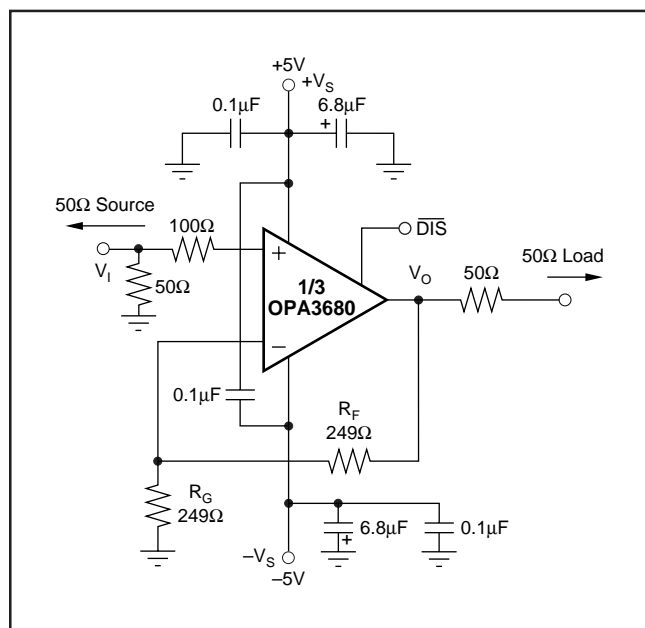
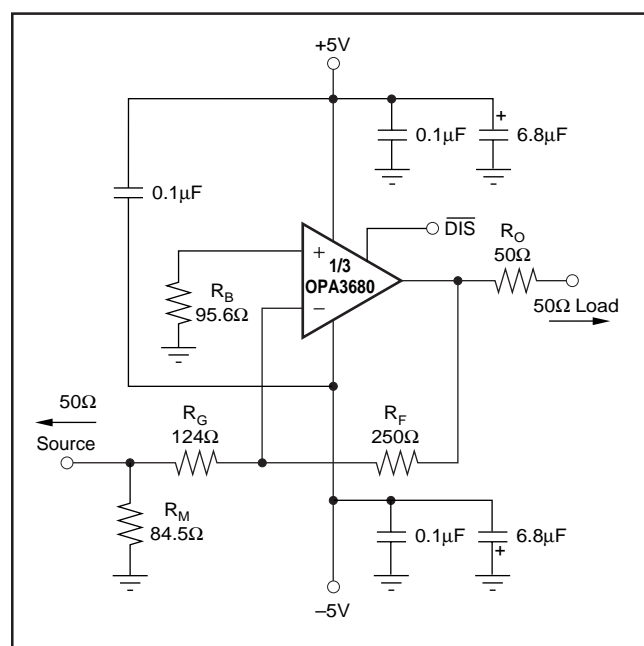

FIGURE 1. DC-Coupled,  $G = +2$ , Bipolar Supply, Specification and Test Circuit.
FIGURE 9. Gain of -2 Example Circuit.
At  $T_A = +25^\circ C$ ,  $G = +2$ ,  $R_F = 250\Omega$ , and  $R_L = 100\Omega$ , unless otherwise noted. See Figure 1.
Figure 1 shows the DC-coupled, gain of +2, dual power supply circuit configuration used as the basis of the  $\pm 5\text{V}$  Specifications and Typical Performance Curves. For test purposes, the input impedance is set to  $50\Omega$  with a resistor to ground and the output impedance is set to  $50\Omega$  with a series output resistor. Voltage swings reported in the specifications are taken directly at the input and output pins, while output powers (dBm) are at the matched  $50\Omega$  load. For the circuit of Figure 1, the total effective load will be  $100\Omega \parallel 498\Omega$ . The disable control line is typically left open to guarantee normal amplifier operation. Two optional components are included in Figure 1. An additional resistor ( $100\Omega$ ) is included in series with the non-inverting input. Combined with the  $25\Omega$  DC source resistance looking back towards the signal generator, this gives an input bias current cancelling resistance that
A good rule of thumb is to target the parallel combination of  $R_F$  and  $R_G$  (Figure 1) to be less than approximately  $125\Omega$ . The combined impedance  $R_F \parallel R_G$  interacts with the inverting input capacitance, placing an additional pole in the feedback network and thus, a zero in the forward response. Assuming a  $3pF$  total parasitic on the inverting node, holding  $R_F \parallel R_G < 125\Omega$  will keep this pole above  $400MHz$ . By itself, this constraint implies that the feedback resistor  $R_F$  can increase to several  $k\Omega$  at high gains. This is acceptable as long as the pole formed by  $R_F$  and any parasitic capacitance appearing in parallel with it is kept out of the frequency range of interest.
Voltage-feedback op amps exhibit decreasing closed-loop bandwidth as the signal gain is increased. In theory, this relationship is described by the Gain Bandwidth Product (GBP) shown in the specifications. Ideally, dividing GBP by the non-inverting signal gain (also called the Noise Gain, or NG) will predict the closed-loop bandwidth. In practice, this only holds true when the phase margin approaches  $90^\circ$ , as it does in high gain configurations. At low gains (increased feedback factors), most amplifiers will exhibit a more complex response with lower phase margin. The OPA3680 is compensated to give a slightly peaked response in a non-inverting gain of 2 (Figure 1). This results in a typical gain of +2 bandwidth of  $220MHz$ , far exceeding that predicted by dividing the  $300MHz$  GBP by 2. Increasing the gain will cause the phase margin to approach  $90^\circ$  and the bandwidth to more closely approach the predicted value of  $(GBP/NG)$ . At a gain of +10, the  $30MHz$  bandwidth shown in the Typical Specifications agrees with that predicted using the simple formula and the typical GBP of  $300MHz$ .
Frequency response in a gain of +2 may be modified to achieve exceptional flatness simply by increasing the noise gain to 2.5. One way to do this, without affecting the +2 signal gain, is to add a  $453\Omega$  resistor across the two inputs in the circuit of Figure 1. A similar technique may be used to reduce peaking in unity gain (voltage follower) applica-
Since the OPA3680 is a general purpose, wideband voltage feedback op amp, all of the familiar op amp application circuits are available to the designer. Inverting operation is one of the more common requirements and offers several performance benefits. Figure 9 shows a typical inverting configuration where the I/O impedances and signal gain from Figure 1 are retained in an inverting circuit configuration.
advantage that the noise gain becomes equal to 2 for a 50Ω source impedance—the same as the non-inverting circuits considered above. However, the amplifier output will now see the 100Ω feedback resistor in parallel with the external load. In general, the feedback resistor should be limited to the 100Ω to 1.5kΩ range. In this case, it is preferable to increase both the  $R_F$  and  $R_G$  values as shown in Figure 9 and then achieve the input matching impedance with a third resistor ( $R_M$ ) to ground. The total input impedance becomes the parallel combination of  $R_G$  and  $R_M$ .
The second major consideration, touched on in the previous paragraph, is that the signal source impedance becomes part of the noise gain equation and hence influences the bandwidth. For the example in Figure 9, the  $R_M$  value combines in parallel with the external 50Ω source impedance, yielding an effective driving impedance of  $50\Omega \parallel 84.5\Omega = 31.4\Omega$ . This impedance is added in series with  $R_G$  for calculating the noise gain (NG). The resultant NG is 2.6 for Figure 9, as opposed to only 2 if  $R_M$  could be eliminated as discussed above. The bandwidth will therefore be slightly lower for the gain of  $-2$  circuit of Figure 9 than for the gain of  $+2$  circuit of Figure 1.
The third important consideration in inverting amplifier design is setting the bias current cancellation resistor on the non-inverting input ( $R_B$ ). If this resistor is set equal to the total DC resistance looking out of the inverting node, the output DC error, due to the input bias currents, will be reduced to (Input Offset Current)  $\cdot R_F$ . If the 50Ω source impedance is DC-coupled in Figure 9, the total resistance to ground on the inverting input will be 155Ω. Combining this in parallel with the feedback resistor gives the  $R_B = 95.6\Omega$  used in this example. To reduce the additional high frequency noise introduced by this resistor, it is sometimes bypassed with a capacitor. As long as  $R_B < 350\Omega$ , the capacitor is not required since the total noise contribution of all other terms will be less than that of the op amp's input noise voltage. As a minimum, the OPA3680 requires an  $R_B$  value of 50Ω to damp out parasitic-induced peaking—a direct short to ground on the non-inverting input runs the risk of a very high frequency instability in the input stage.
The distortion plots show which changes in operation will improve distortion. Increasing the load impedance improves distortion directly. Remember that the total load includes the feedback network; in the non-inverting configuration (Figure 1) this is sum of  $R_F + R_G$ , while in the inverting configuration (Figure 9), it is just  $R_F$ . Also, providing an additional supply decoupling capacitor (0.1μF) between the supply pins (for bipolar operation) improves the 2nd-order distortion slightly (3dB to 6dB).
Evaluating these two equations for the OPA3680 circuit and component values shown in Figure 1 will give a total output spot noise voltage of  $11\text{nV}/\sqrt{\text{Hz}}$  and a total equivalent input spot noise voltage of  $5.5\text{nV}/\sqrt{\text{Hz}}$ . This is including the noise added by the bias current cancellation resistor ( $100\Omega$ ) on the non-inverting input. This total input-referred spot noise voltage is only slightly higher than the  $4.8\text{nV}/\sqrt{\text{Hz}}$  specification for the op amp voltage noise alone. This will be the case as long as the impedances appearing at each op amp input are limited to the previously recommend maximum value of  $125\Omega$ . Keeping both ( $R_F \parallel R_G$ ) and the non-inverting input source impedance less than  $125\Omega$  will satisfy both noise and frequency response flatness considerations. Since the resistor-induced noise is relatively negligible, additional capacitive decoupling across the bias current cancellation resistor ( $R_B$ ) for the inverting op amp configuration of Figure 9 is not required.
The balanced input stage of a wideband voltage feedback op amp allows good output DC accuracy in a wide variety of applications. The power supply current trim for the OPA3680 gives even tighter control than comparable products. Although the high speed input stage does require relatively high input bias current (typically  $14\mu\text{A}$  out of each input terminal), the close matching between them may be used to reduce the output DC error caused by this current. The total output offset voltage may be considerably reduced by matching the DC source resistances appearing at the two inputs. This reduces the output DC error due to the input bias currents to the offset current times the feedback resistor. Evaluating the configuration of Figure 1, using worst-case  $+25^\circ\text{C}$  input offset voltage and current specifications, gives